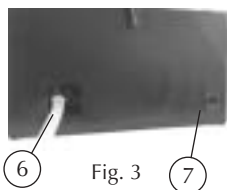

Fig. 3
Once instrument has been placed on a table in front of the operator, perfectly horizontal, thereby guaranteeing an adequate stability, and having assured that general switch is on OFF position (1), feed cable may be connected, previously plugging in same at the side of the machine (7-Fig. 3) and subsequently plugging in to mains.
1. check that tap positioned on rear side of instrument is closed (anchor must be in vertical position - see detail 6, Fig. 3);